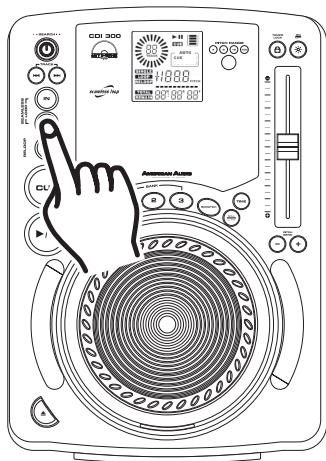

Figure 25
2) Press the **MEMORY BUTTON (13)**. The **MEMORY BUTTON (13)** red LED will glow indicating memory is ready to be stored.
3) Select one of the four **BANK BUTTONS (4)** you wish to store your loop in and press that button.
4) The red **MEMORY BUTTON (13)** LED will turn off, when your sample is locked into memory.
5) At this point your sample has been stored into memory. The original loop you used to create the sample will remain playing until the **OUT BUTTON (18)** is pressed (Figure 25).
6) Your sample can now be recalled at any time even when the unit is in **PAUSE MODE**. To recall the sample be sure the sample function is on, by pressing the **SAMPLE BUTTON (15)** until the red sample button LED turns on. To play your sample in a continuous loop leave the sample function on. To play your sample just once, turn the sample function off immediately after initiating your sample. With the sample function on, the sample will continue to play until the sample function is turned off.